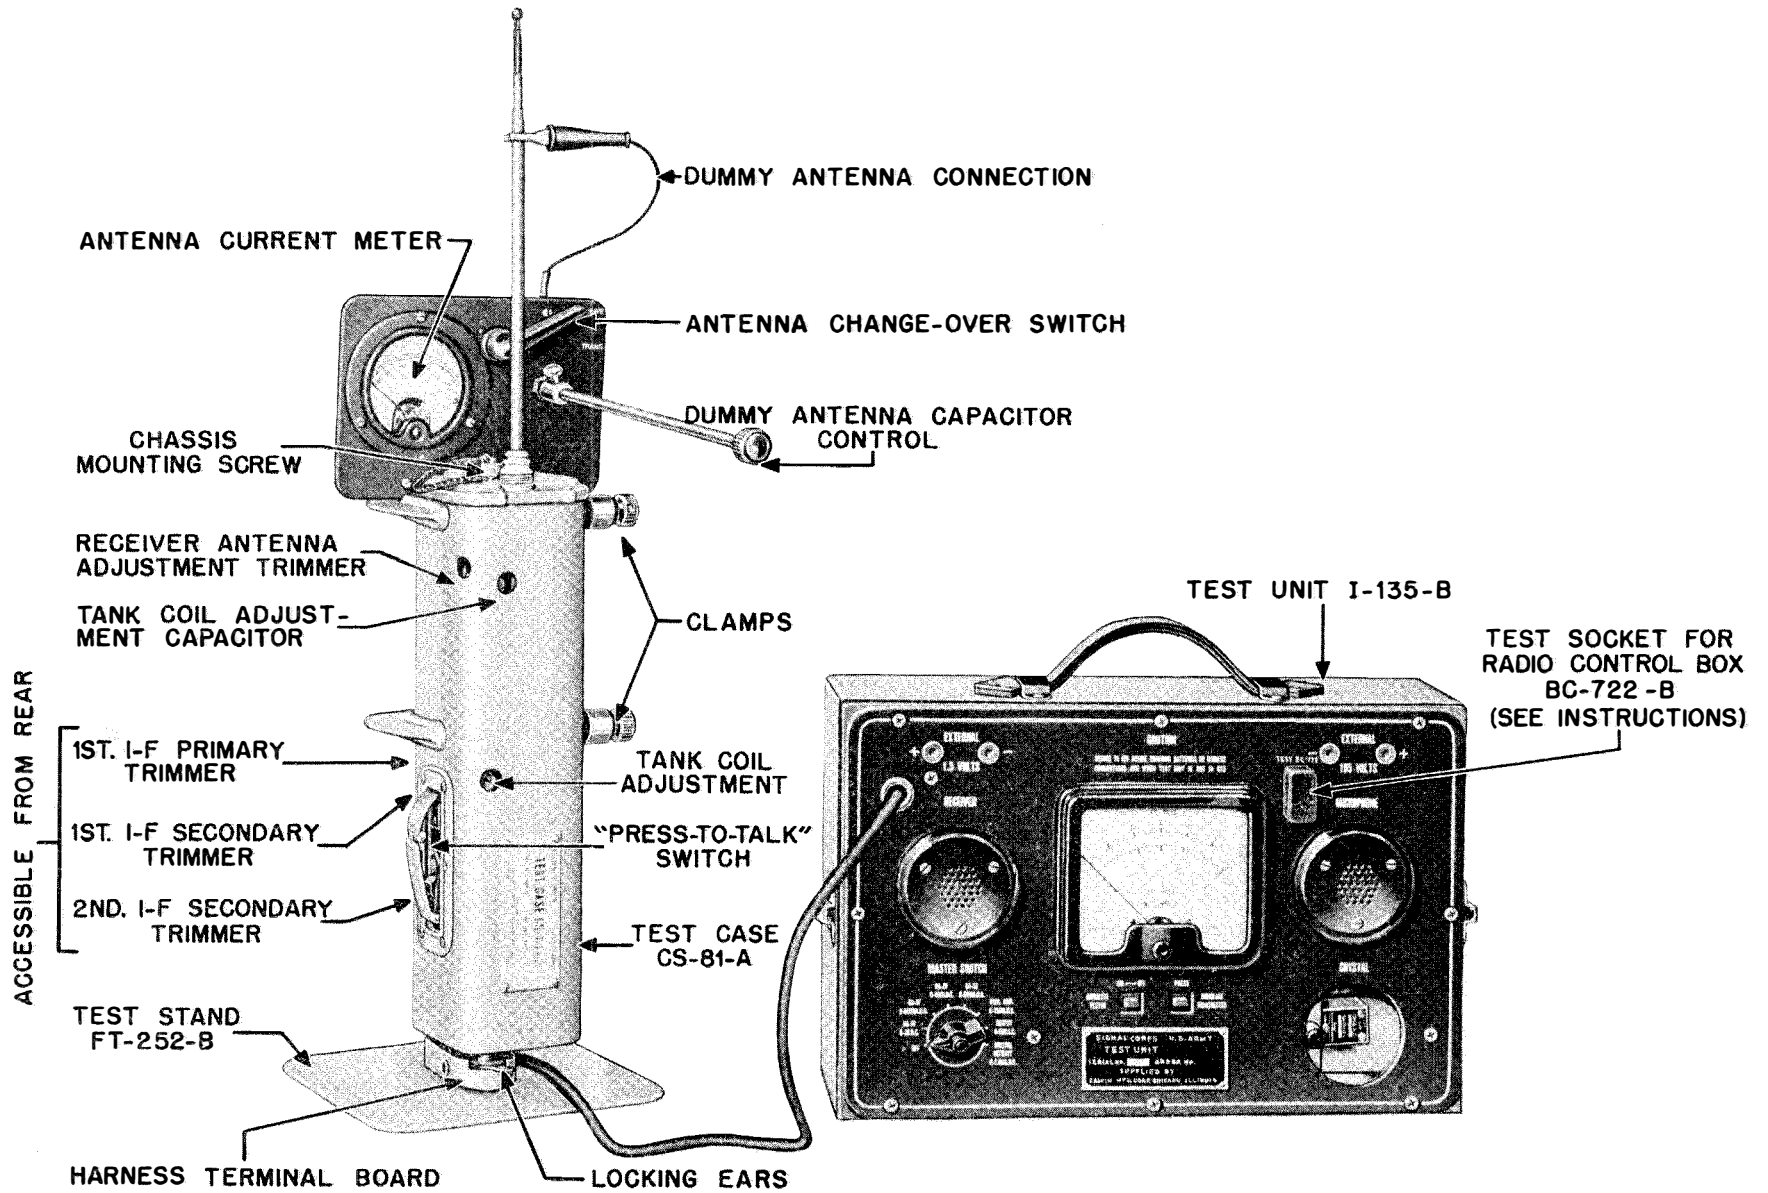

FIG. 12. TEST UNIT EQUIPMENT IE-17-B, SET-UP FOR RECEIVER ALIGNMENT
b. Test Case CS-81-A.—As the tuning adjustments are inaccessible because of their location on the chassis, which is covered by the case or housing, special apparatus (Test Equipment IE-17-B) is required to make these adjustments. See Fig. 12. Test Case CS-81-A is similar to a chassis housing except for the holes that have been provided to permit access to the adjustments. This apparatus permits tuning the set under conditions identical to those of normal operation. The tuning adjustments should not be made on the set without the housing around the chassis, because the set would become detuned when inserted into the housing. Detuning or misalignment would result from the additional capacity introduced into the circuit by the housing.
(5) Next, clamp Test Case CS-81-A into Test Stand FT-252-B with the antenna end up, and the housing in such position that the change-over switch is opposite the left side of the operator as he faces the stand. See Figure 12. The upper clamp should grip the housing on the edges of the top cover. The lower clamp should not be made too tight as the pressure may crack the housing.
(6) Make certain that the "MASTER SWITCH" of the test unit is in the "OFF" position. Then connect external 1.5 volt and 90 volt heavy duty batteries of the type described in paragraph 32, d.
(5) Turn the "MASTER SWITCH" on test unit to "BA-38, 0-60 MA. D.C.," position and observe the meter reading. The normal reading is approximately 14 ma. when the radio set is operating as a receiver.
(6) The receiver is now ready for alignment. Be sure that a good transmitter crystal of the proper frequency is in place in the test unit. The preceding activity check of the transmitter crystal will assure that a radio frequency signal is being generated.
(7) Set the "MODULATE TESTER" switch to "ON." The 1000 c.p.s. tone will now modulate the carrier signal.
(8) Turn the "MASTER SWITCH" to "OUTPUT, 60 V. A.C." position. A reading should now be indicated on the meter and a 1000 c.p.s. tone should be heard in the earphone of the test unit.
(9) The r-f signal for alignment is fed into the receiver by radiation from the compartment in the test unit in which the crystal is located. The slide cover of the crystal compartment acts as a radiation control preventing the signal from radiating when closed and allowing maximum radiation when open. If the set is badly out of alignment, the r-f signal picked up by the receiver may not be sufficient to give a reliable audio voltage reading on the meter (OUTPUT 0-60 V. A.C. position). For such a condition, connect a short piece of wire to the Fahnestock clip marked "R.F. OUTPUT". This clip is located in the crystal compartment of the test unit. The wire will act as an antenna and increase the radiation of the r-f signal. Varying the position of this wire with respect to the antenna of the radio set or varying the length of the wire will control the strength of the signal radiated. It may be necessary in extreme cases of misalignment that the wire connected to the "R-F OUTPUT" terminal will have to be wrapped a couple of turns around the radio set antenna.
(10) The test case shall be grasped with one hand during all the alignment tests on the receiver.
(11) The location of the tuning adjustments on the radio chassis are shown in Figs. 12, 15, and 16. With the insulated screwdriver, turn the "receiver antenna adjustment trimmer" clockwise. Notice the effect of this adjustment on the output meter reading. If the meter reading increases, continue to tighten the screw until a maximum reading is obtained. If the reading decreases, turn the screw counter-clockwise until a maximum reading is obtained. Be careful not to tighten the screw after it begins to turn hard as the threaded base of the trimmer will be stripped. The setting of the trimmer screw for maximum audio output should fall somewhere between the point of
(4) Turn the "MASTER SWITCH" on test unit to "BA-37, O-600 MA. D.C." position and observe the meter reading. The normal reading is approximately 300 ma. This reading is the current drain on the "A" battery, when the radio set is operated as a transmitter.
(5) Turn the "MASTER SWITCH" on test unit "BA-38, O-150 V. D.C." position and observe the meter reading. If this reading is below 75 volts, the external heavy duty 90 volt battery will have to be replaced. This reading is the "B" battery voltage when the radio set is operating as a transmitter.
(6) Turn the "MASTER SWITCH" on test unit to "BA-38, O-60 MA. D.C." and observe the meter reading. The normal reading is approximately 30 ma. when the radio set is operated as a transmitter.
(7) Turn the "MASTER SWITCH" on test unit to "PWR. AMP." position. Adjust the "tank coil adjustment capacitor" for *minimum* current reading on the meter in the test unit. The normal reading in this position is approximately 7 ma. See Figure 12 for location of "tank coil adjustment capacitor." *Be sure to grasp the test case with one hand during this test.*
(8) Telescope the upper three sections of the antenna rod leaving only the bottom or fourth section fully extended from the housing. Next, clip the "dummy antenna connection" to the upper part of the antenna rod. See Figure 12. Set the antenna switch on the panel of Test Stand FT-252-B to "TRANS." position, and then using the insulated shaft, adjust the "dummy antenna capacitor control" for *minimum current reading on the meter in test unit* (approximately 7 ma. meter in PWR. AMP. position). This adjustment of the dummy antenna capacity for minimum power amplifier plate current is necessary to compensate for the change in antenna capacity due to telescoping the upper three sections of the antenna rod. Observe the antenna current reading on the R.F. meter on Test Stand FT-252-B. This should be approximately 15 ma. and represents the unmodulated antenna current.
(9) Place the "MODULATE TESTER" switch to "ON" position and press the "MODULATE TRANSMITTER" button on the test unit. This applies a .2 volts, 1000 c.p.s. audio signal across the microphone terminals. Note the rise in the antenna current meter reading when the modulated signal is applied. This rise should be at least six per cent over the unmodulated current reading. A six per cent increase in antenna current indicates fifty per cent modulation. For example, assume that the unmodu-
(1) This method of alignment is satisfactory as long as the transmitter crystal and receiver crystals in the set are exactly 455 kc apart.
(2) If the regular alignment procedure described in paragraph 32g has been followed, and no readable audio voltage has been obtained on the "OUTPUT O-60 V. A.C." position of the test unit meter, first make sure that a maximum r-f signal is being radiated. This can be assured by connecting a short length of wire to the "R.F. OUTPUT" terminal of the test unit and placing this wire close to the receiver antenna.
(3) Then with the "MASTER SWITCH" of the test unit on "OUTPUT 60 V. A.C.," adjust the second i-f secondary trimmer for maximum output, then the first i-f secondary trimmer next, and the first i-f primary trimmer last. See Fig. 12. All i-f trimmers are adjusted for peak output meter reading. As the i-f trimmers are aligned, loosen the signal coupling to the receiver antenna so the maximum audio output reading of the meter is not over 10 volts. This is necessary to prevent overloading the receiver and consequently poor alignment of the i-f circuits. The above alignment adjustments must be performed very carefully for good results.
(4) After the i-f alignment adjustments have been made, complete the regular alignment procedure by adjusting the "receiver antenna adjustment trimmer" and the "tank coil adjustment" as given in paragraph 32g.